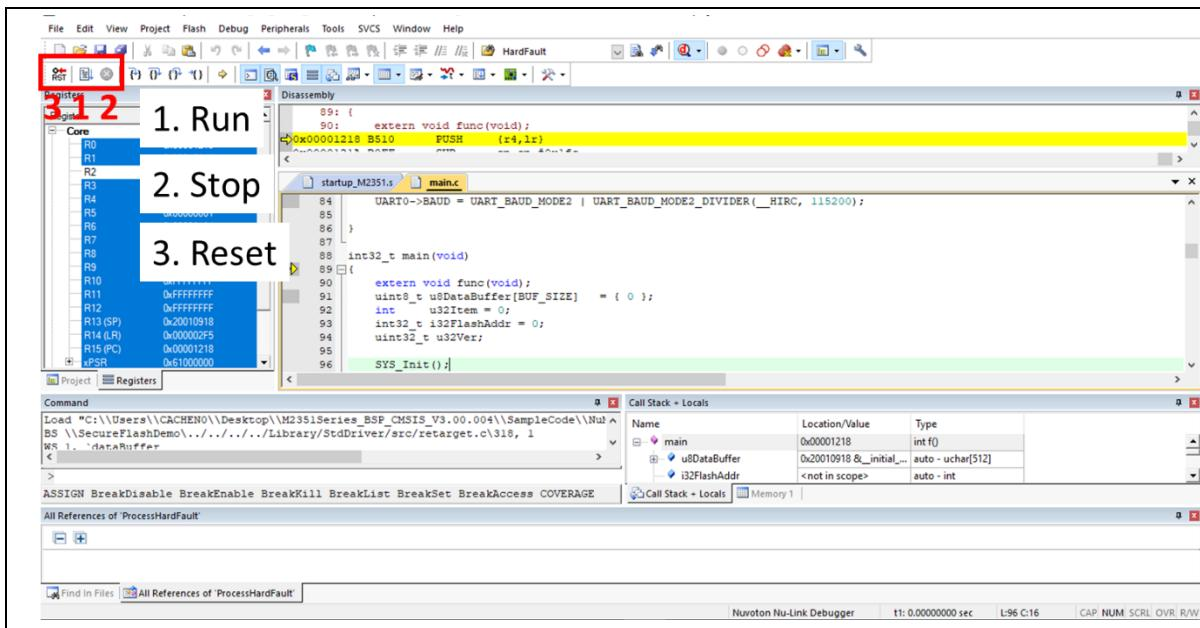
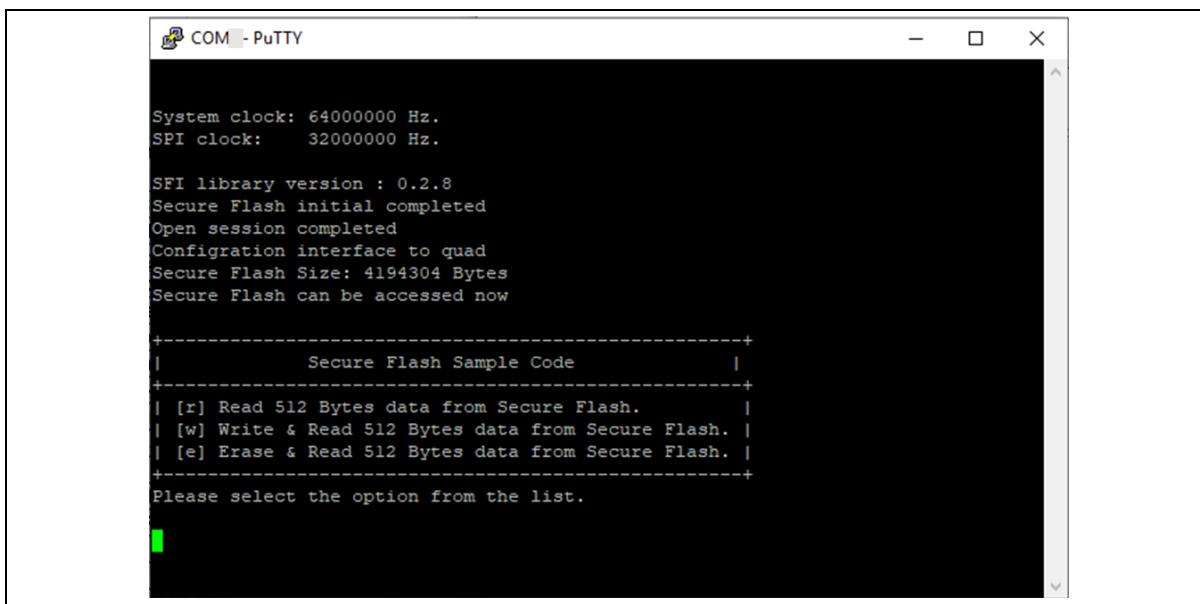

Figure 3-13 Keil MDK Debug Mode
Figure 3-14 Debug Message on Serial Port Terminal Windows
4. Figure 3-13 shows the debug mode under Keil MDK. Click “Run” and the debug message will be printed out as shown in Figure 3-14. User can debug the project under debug mode by checking source code, assembly language, peripherals' registers, and setting breakpoint, step run, value monitor, etc.